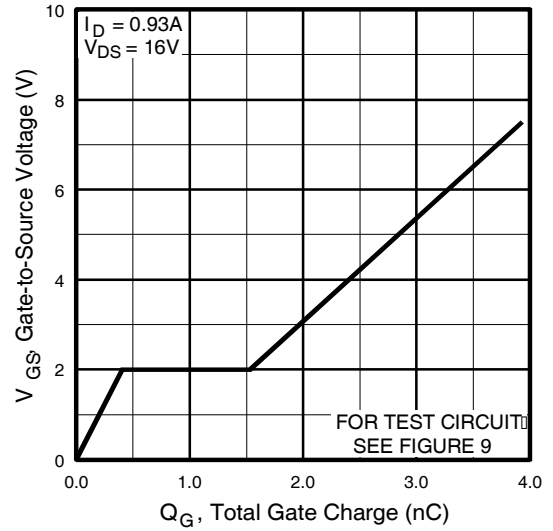

Fig 6. Typical Gate Charge Vs. Gate-to-Source Voltage
| Q _{gd} | Gate-to-Drain ("Miller") Charge | — | 1.1 | 1.7 | | V _{GS} = 4.5V, See Fig. 6 and 9 ③ |